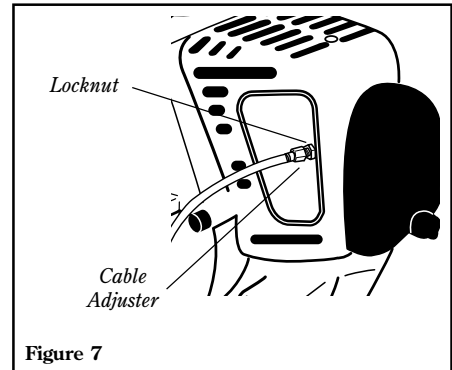

Figure 7
The throttle lever free play should be approximately 9/32 inch (7mm). See Figure 7. Make sure that the throttle lever operates smoothly without binding. If it becomes necessary to adjust the lever free play, follow the procedures and illustrations that follow.
2. Turn the cable adjuster in or out as required to obtain proper free play of 9/32 inch (7mm). See Figure 7.